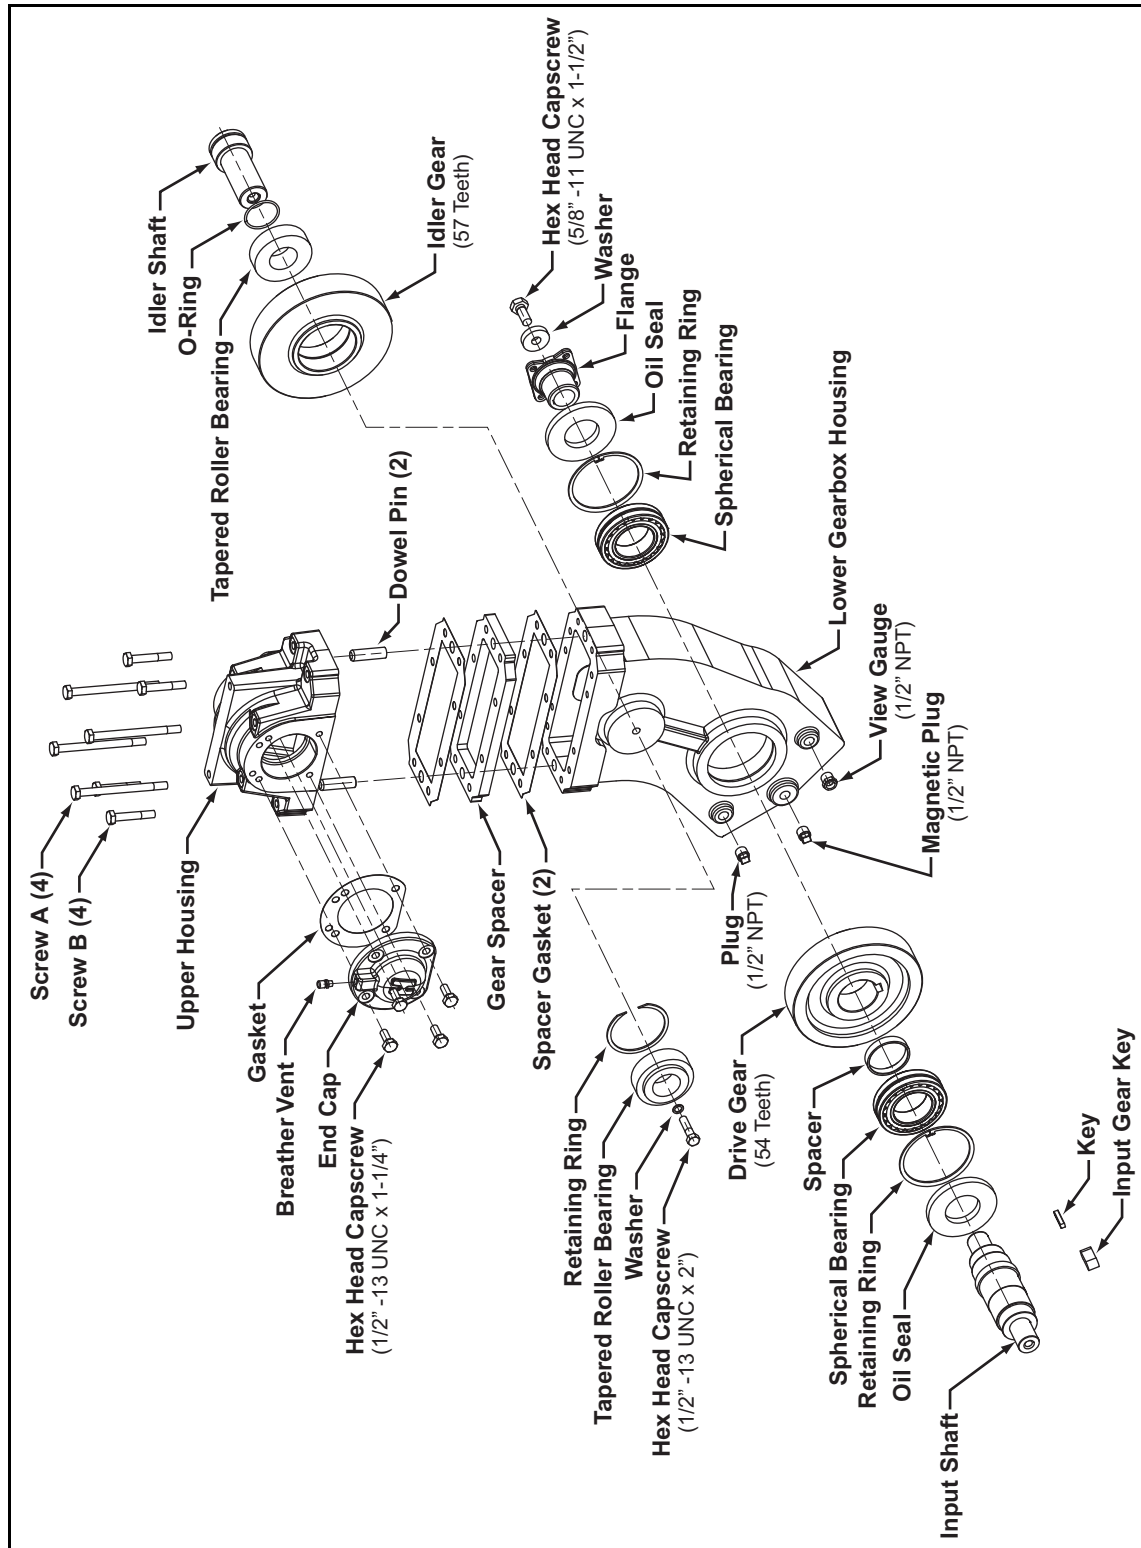

Figure 9-5: Typical J Series Gearbox Assembly
(See Figure 9-5: “Typical J Series Gearbox Assembly” on page 158.)
1. With the gearbox secured in a holding fixture, remove and disassemble the idler shaft assembly. (See Figure 9-5: “Typical J Series Gearbox Assembly” on page 158.)
- Input gear into gearbox housing in proper orientation. (See Figure 9-5: “Typical J Series Gearbox Assembly” on page 158.)
1. Press new tapered roller bearings into the idler gear. (See Figure 9-5: "Typical J Series Gearbox Assembly" on page 158.)